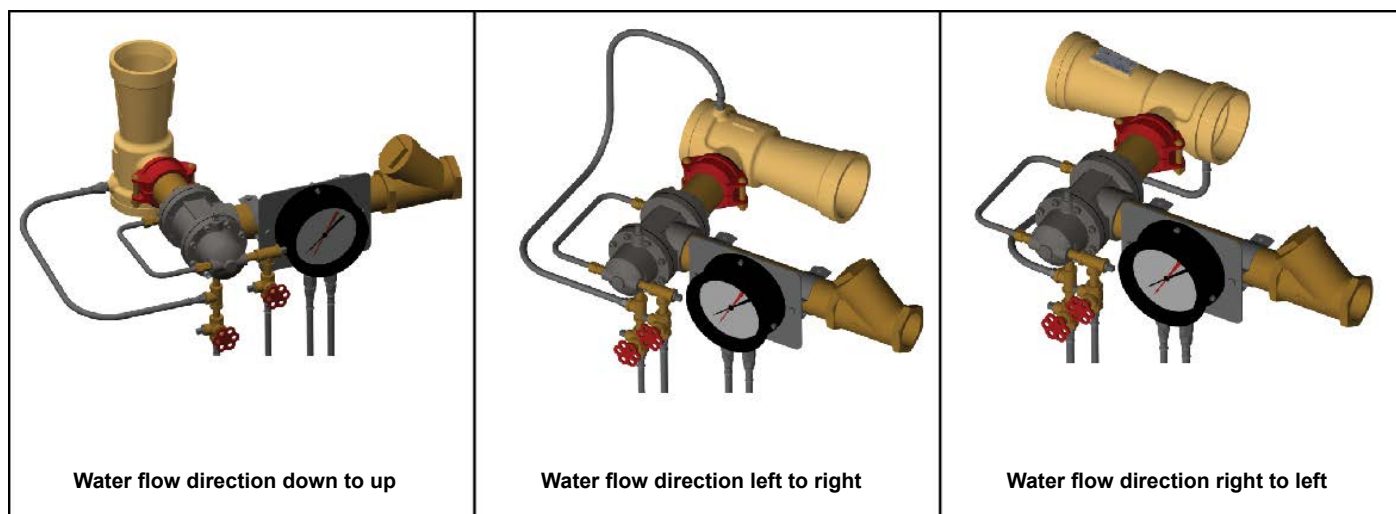

Figure 8.2 - Typical Proportioning Device Orientations
- The balancing spool valve must always lie horizontally (Fig 8.2).